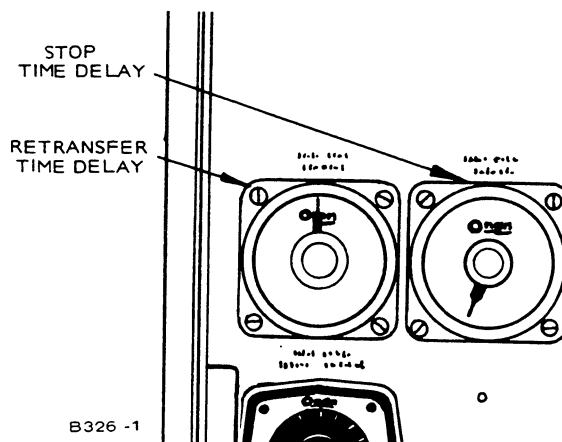

FIGURE 24. STOP AND RETRANSFER TIME DELAY RELAYS
2. Set the time delay by turning the adjustment knob in the center of the delay. See Figure 24.